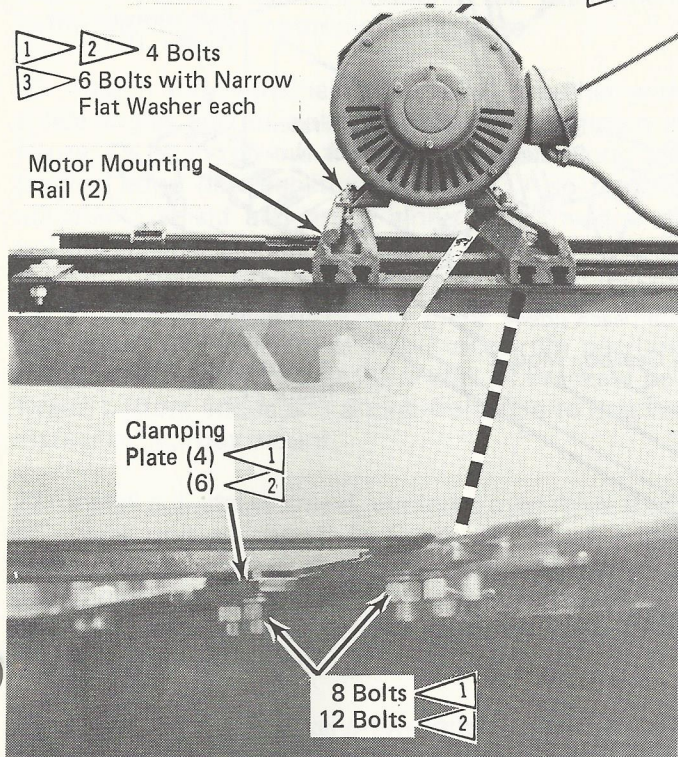

Figure 16.
16. Install motor mounting rails with clamping plates and bolts shown in figure 16. Install bolts loosely so
17. Hoist motor into place and attach to motor mounting rails with square headed bolts specified in figure 16. Do not tighten these bolts at this time.
Prime Mover Mounting Rails - Attach with clamping plates and bolts shown in figure 16.